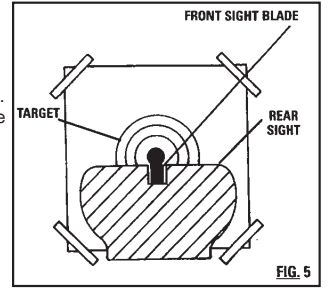

FIG. 5
- The airgun is correctly aimed when the front sight blade is positioned exactly in the center of the notch of the rear sight. The top of the front sight blade should be even with the top of the notch in the rear sight. The bulls-eye should appear to rest on the top of the front sight. (Fig. 5)